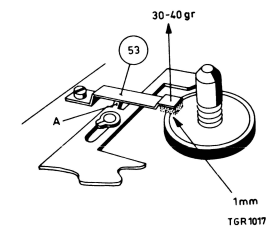

Fig. 11
Adjusting the brake, item 53, see Fig. 11